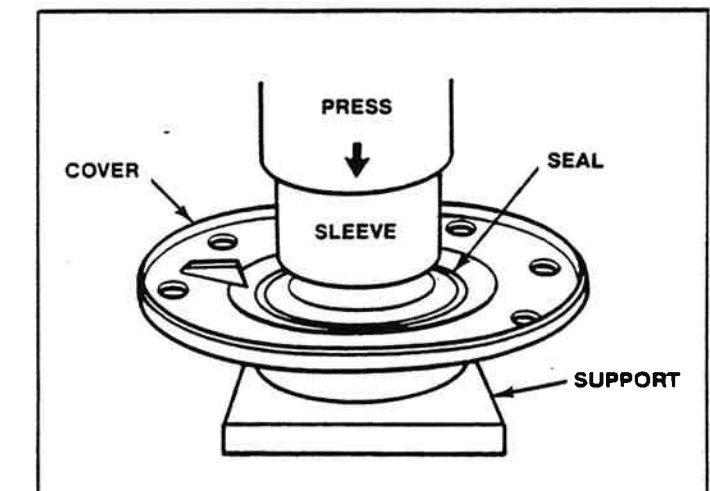

Figure 2-50. Pressing Seal Into Cover.
- Support the cover under the small diameter opening with metal or wood blocks (Figure 2-50).